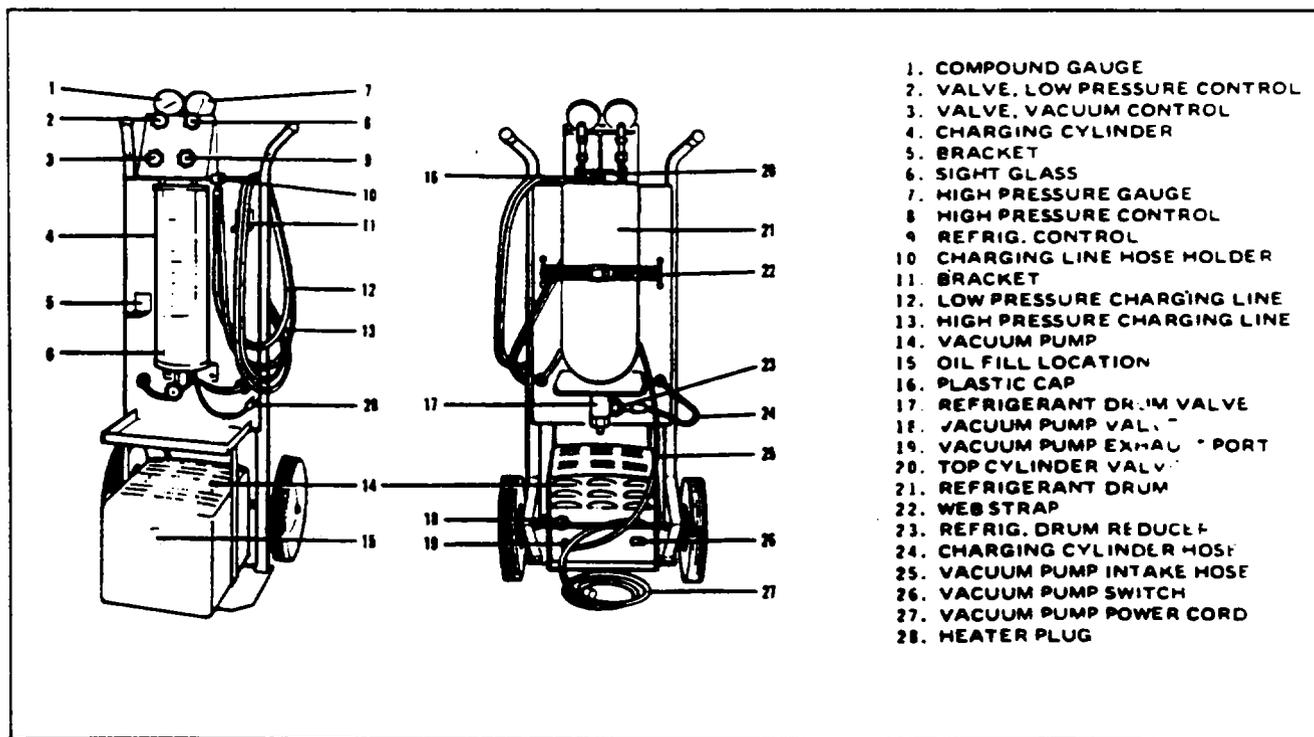

Figure 21-28. Charging Stand
Applies to Kent Moor J8393-02 or similar charging station. Use Refrigerant 12. (Refer to Figure 21-28.)
- C. Remove exhaust port cap and open valve on pump. Turn on pump and open the low and high pressure and vacuum control valves on the charging station. (Refer to Figure 21-28.)